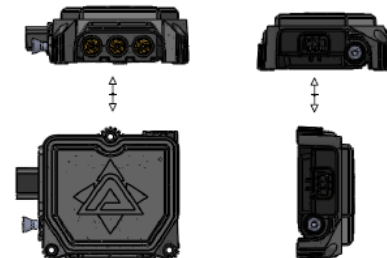

Figure 5
9. Use the iLift PCU (Figure 5) on bracket as a drilling template, mark mounting bolt location for iLift PCU on flat vibration insulated surface.
11. Mount iLift PCU (Figure 5) and secure with M8 hex head nuts and bolts, grade 8.8 or better. Torque nuts to $28 \text{ Nm} \pm 2 \text{ Nm}$.
12. Connect wiring harness (Figure 4, Item 1) to iLift PCU (Figure 5).
by the iLift PCU Figure 5.